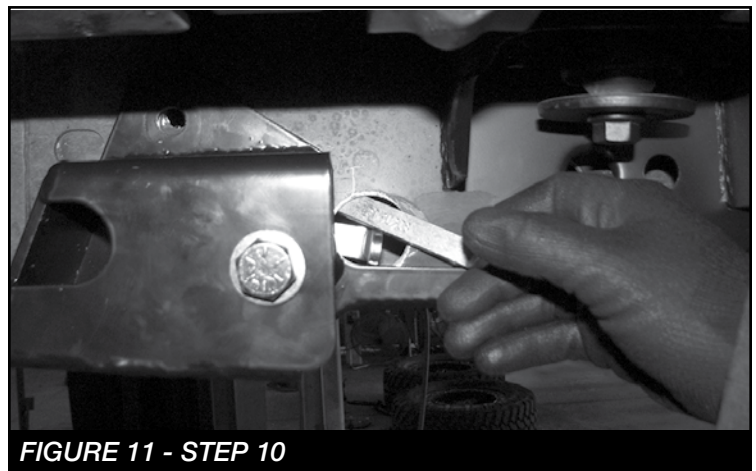

FIGURE 11 - STEP 10
- Install FT50308 (Rear long nut tab) using the supplied 1/2 X 1-1/4" bolt, lock washer and flat washer. Leave loose. **SEE FIGURE 11**